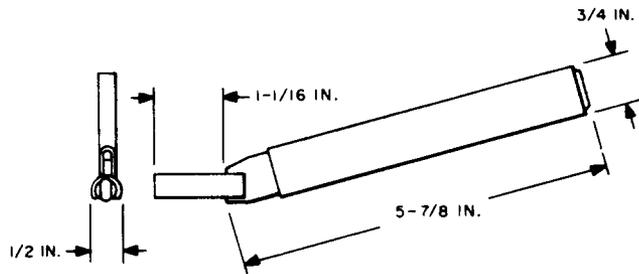

Fig. 10—612A Relay Core Holder Tool
2.12 **612A:** The 612A relay core holder tool (Fig. 10) consists of an insulated metal handle equipped at one end with a metal piece formed to fit over the cores of U-, UA-, and Y-type relays having hinge-pin type armature suspension. The 612A tool is used for supporting mounted U- and Y-type while adjusting the hinge bracket with the 611A tool.